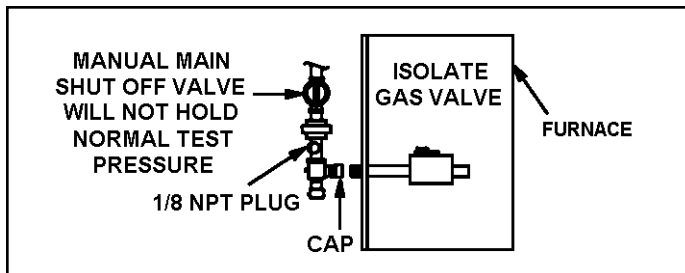

Figure 22.
5. A 1/8" N.P.T. plugged tap or pressure post is located on the gas valve to facilitate test gauge connection. See Figure 22.
When testing pressure of gas lines, gas valve must be disconnected and isolated. See Figure 22. Gas valves can be damaged if subjected to pressures greater than 1/2 psig (3.48 kPa, 14 inches w.c.).